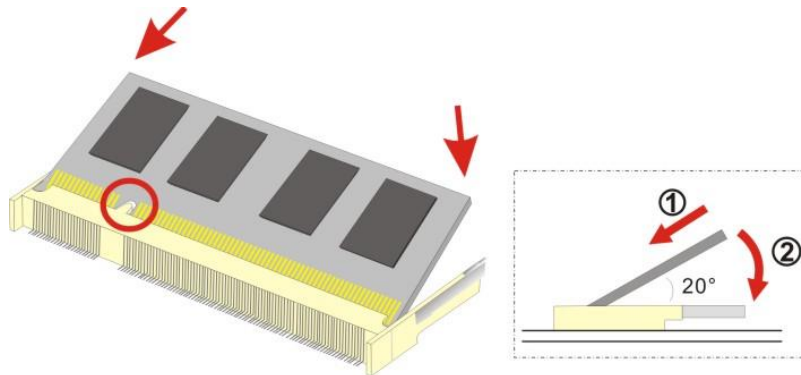

Figure 3-5: SO-DIMM Installation
Step 3: Align the SO-DIMM with the socket. The SO-DIMM must be oriented in such a way that the notch in the middle of the SO-DIMM must be aligned with the plastic bridge in the socket (**Figure 3-5**).
Step 4: Push the SO-DIMM into the socket at an angle (**Figure 3-5**).
Step 5: Gently pull the arms of the SO-DIMM socket out and push the rear of the SO-DIMM down (**Figure 3-5**).